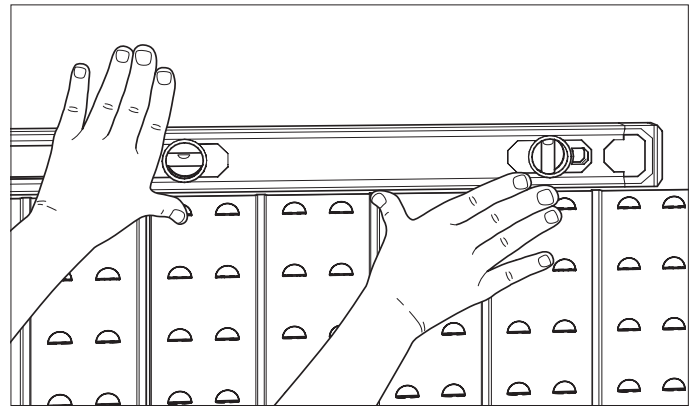

FIGURE 6
- Check each panel to ensure that it is level and support ties are aligned horizontally between adjacent panels (see Figure 6). Leave 1/16 to 1/8 in. space between the vertical edges of adjacent panels in each row to allow for panel expansion.